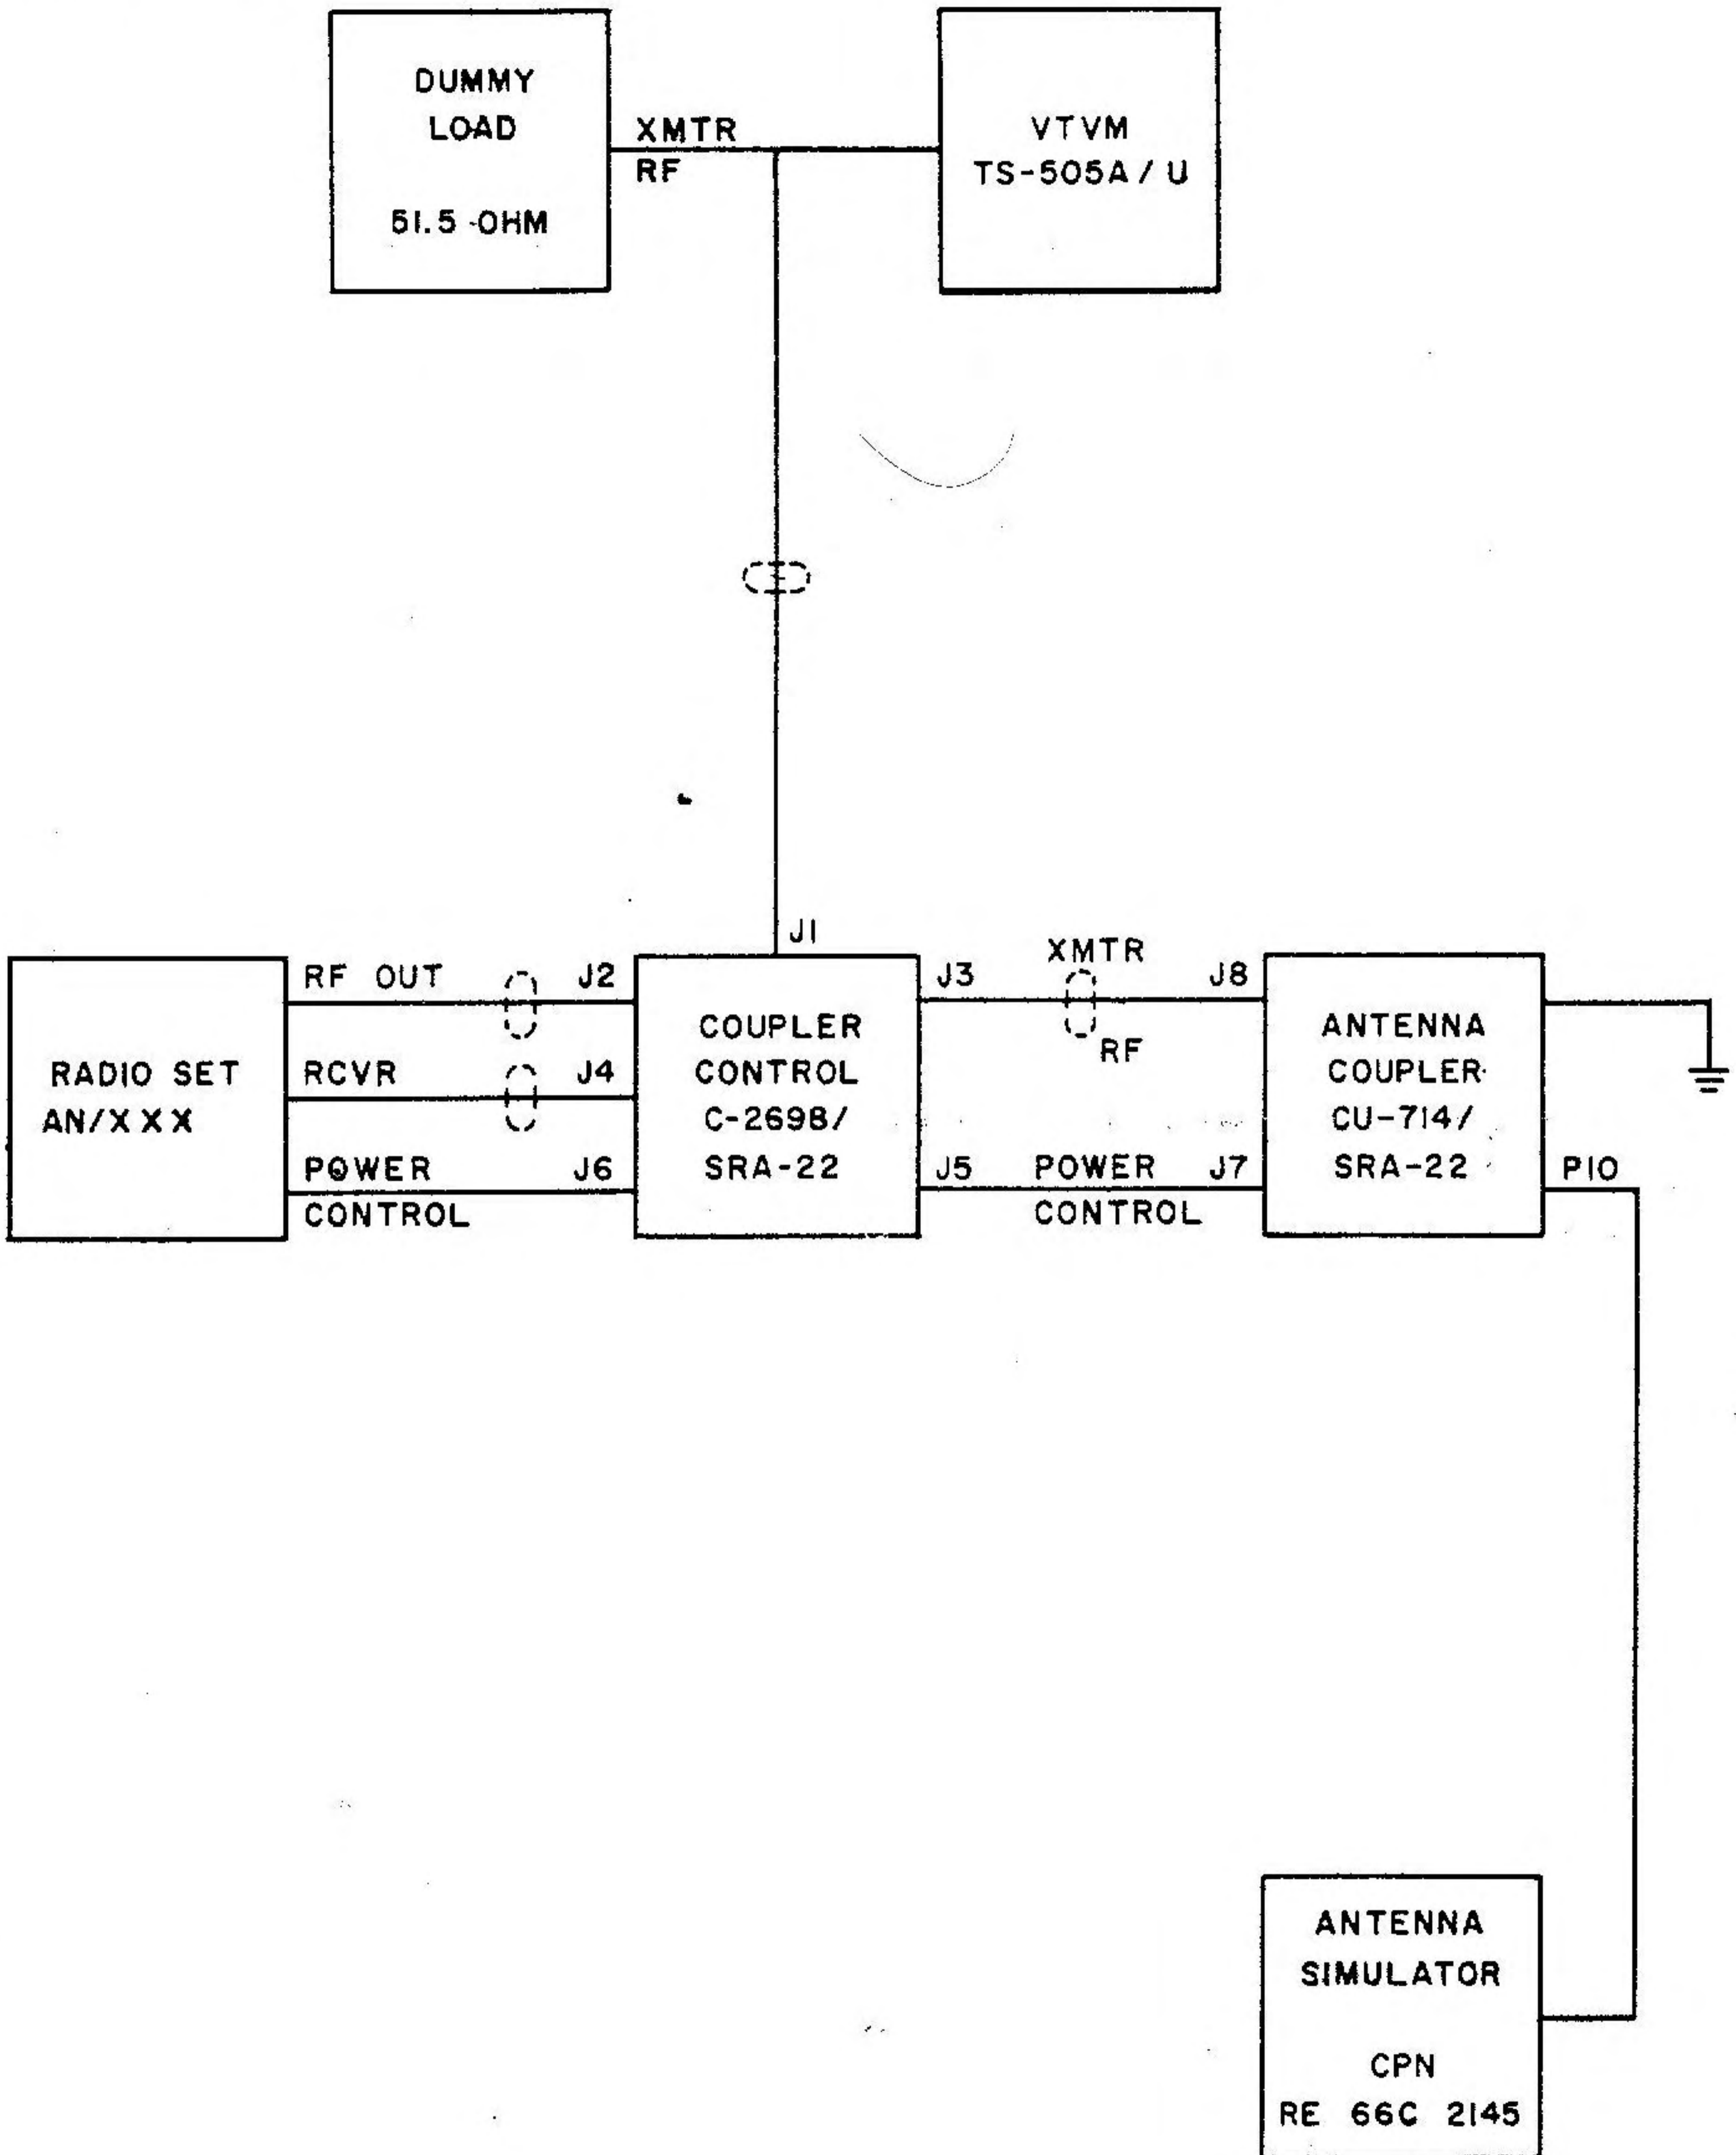

Figure 7-8. AN/SRA-22 Test Setup, Block Diagram
(1) TEST EQUIPMENT AND SPECIAL TOOLS. - There are no special tools required to perform the tests covered in this section. The test equipment required is listed in table 5-2.
(2) TEST SETUP. - Refer to figure 7-8 for block diagram of test setup. Connect Antenna Coupler Group AN/SRA-22 to equipment as shown.
(3) TEST PROCEDURE. - Perform steps (a) through (e) using following frequencies: 2, 4, 8, 16, and 30 megacycles.